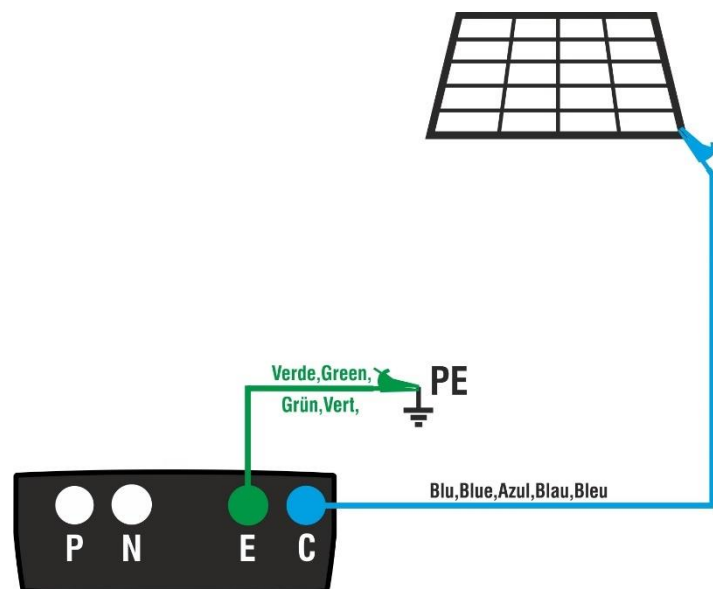

Fig. 6: Connection of instrument for continuity measurement on structures of the PV installation
5. Connect the instrument to the PV module/string being tested and to the main earth node of the system as shown in Fig. 6.
8. Connect the instrument to the PV module/string being tested and to the main earth node of the system as shown in Fig. 6.